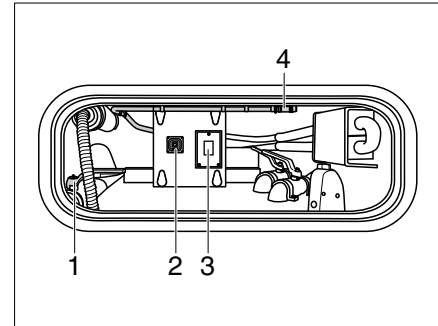

Fig. 369 Flushing the cassette of the macerator toilet (view in the storage box)
- Open the drain cock (Fig. 369,1).
- Press the switch (Fig. 369,3).
- Operate switch (Fig. 369,2) for the drainage pump.
- Remove the hose for tank cleaning (Fig. 369,4) in the storage box and connect it to a water connection.
- Remove the water connection after flushing and store the hose for tank cleaning (Fig. 369,4).
- Close the drain cock (Fig. 369,1).